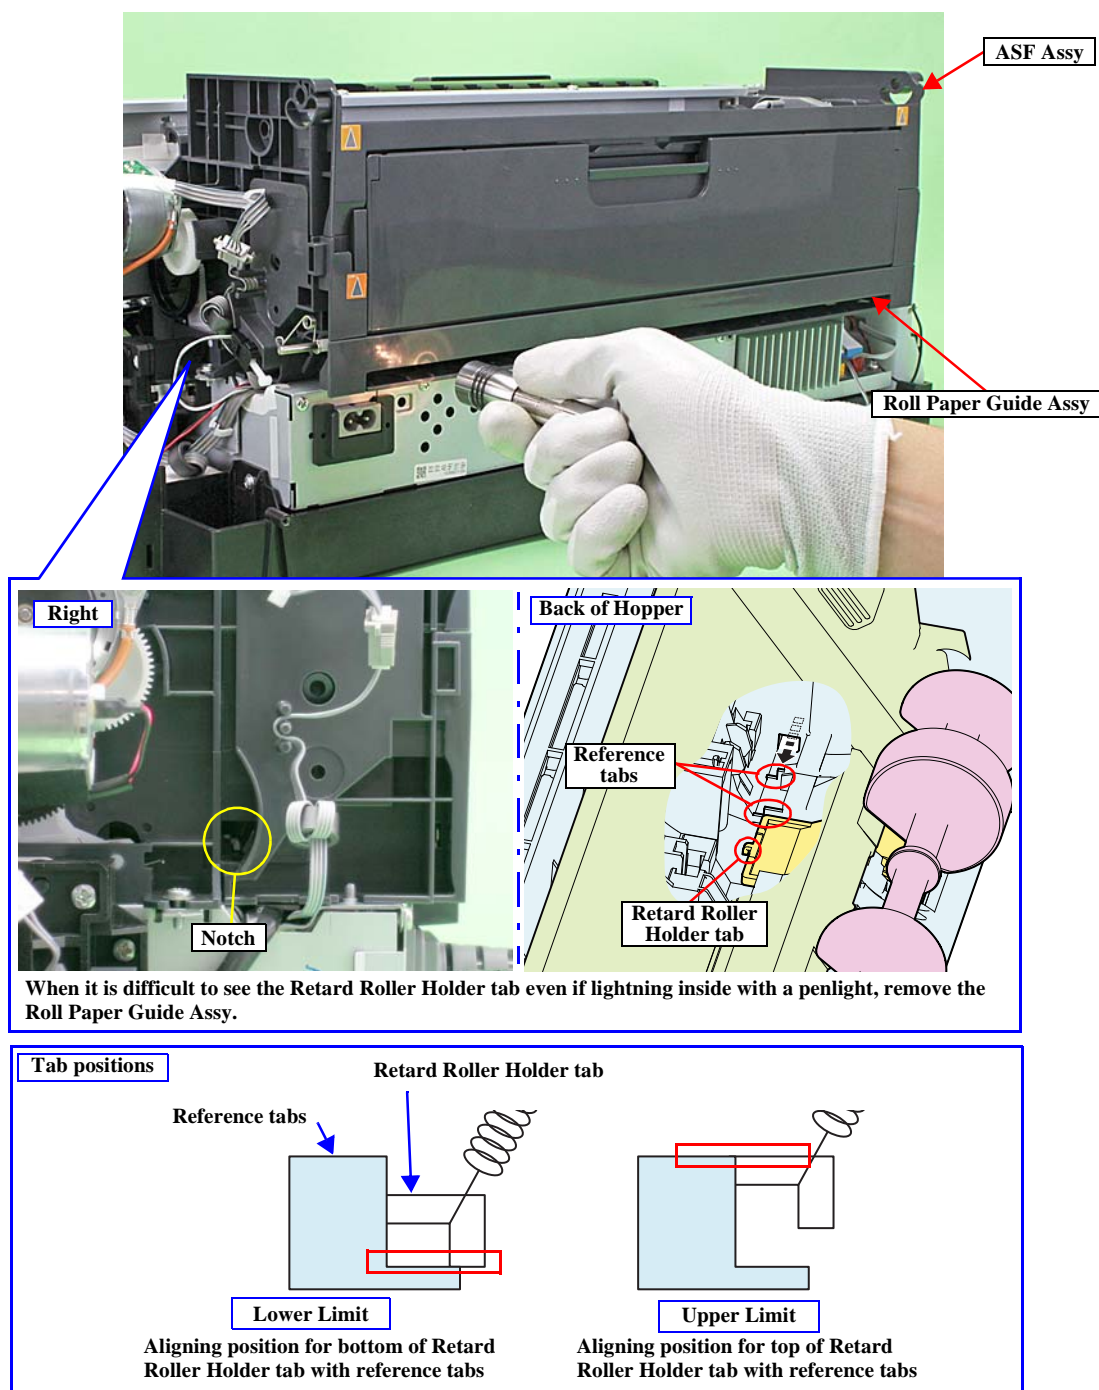

Figure 2-12. Aligning the Position of the Guide Roller LD (0 Digit Side)
3. Light the printer's inside through a gap between the ASF Assy and the Paper Guide (under ASF Assy) with a penlight, and look the tab on the Retard Roller Holder at the back of the two reference tabs on the ASF Assy through the notch. After making sure that the two reference tabs are aligned when viewed edge-on, adjust the position of the Retard Roller Holder Tab by pressing the LD Roller Guide (0-digit side) so that it is placed within the range as shown in the simplified diagram in Figure 2-12.